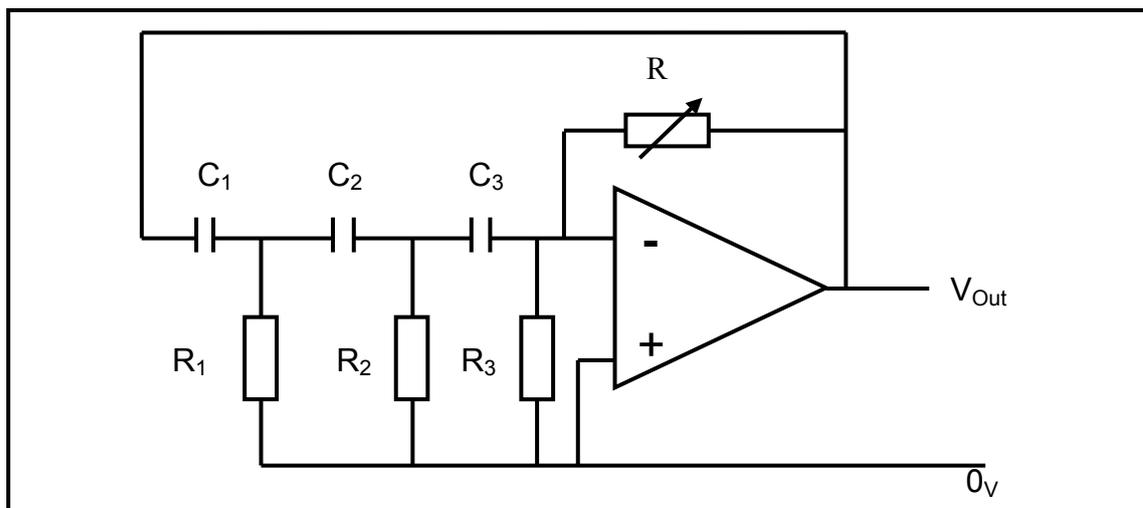

FIGURE 7.5: RC PHASE-SHIFT OSCILLATOR (3) [50]
7.12 Calculate the oscillation frequency of the RC phase-shift oscillator in FIGURE 7.5 below.